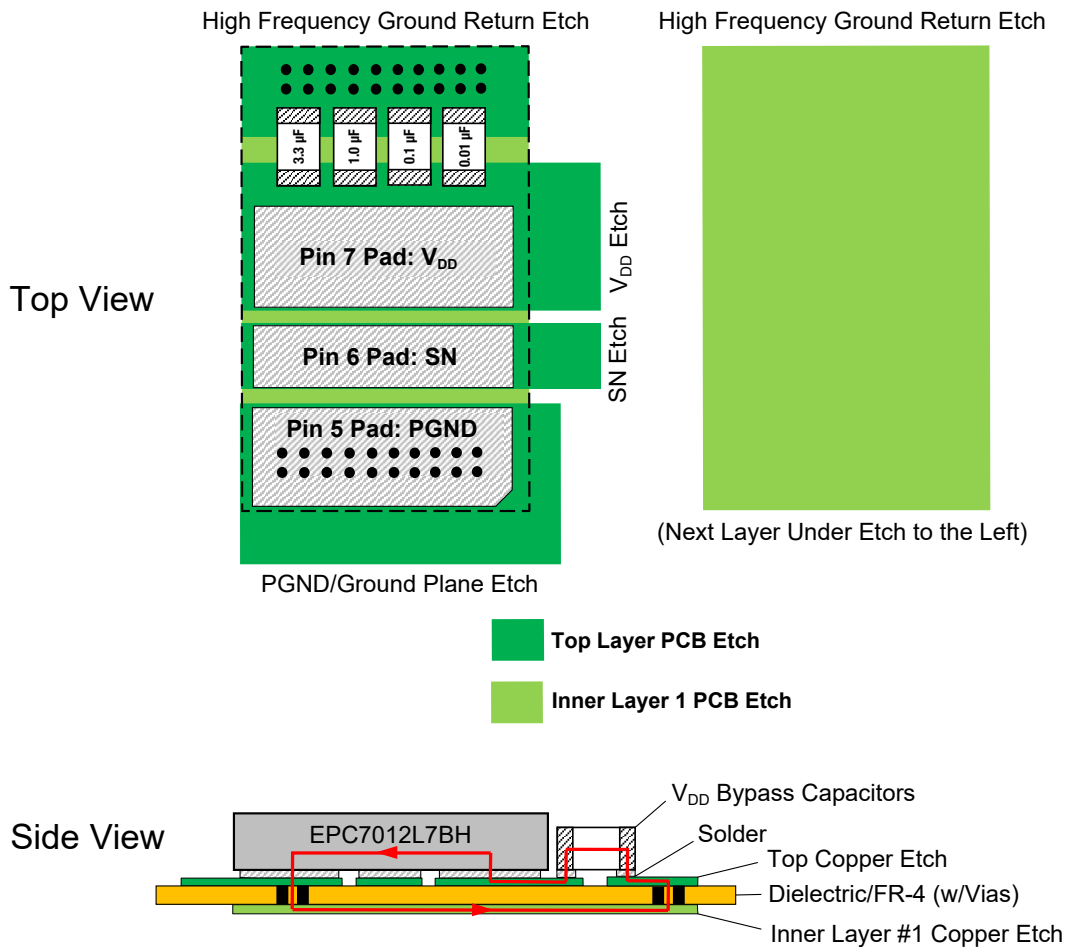

Figure 4. Recommended Optimum V_{DD} -to-PGND Power Supply Bypass Capacitor Layout (Not to Scale)
Because of the extremely high rate-of change of voltage seen at the SN output it is recommended that a minimum of one (1) 3.3 μF microfarad ceramic capacitors, one (1) 1.0 microfarad ceramic capacitor, one (1) 0.1 microfarad ceramic capacitor and one (1) 0.01 microfarad ceramic capacitor, all with sufficient voltage de-rating, be connected from V_{DD} to PGND. All four of these capacitors should be low ESR types, if possible. It is strongly recommended that these capacitors have the smallest possible case sizes possible such that they inscribe the smallest possible loop area between V_{DD} and PGND so as to minimize the inductance related to this loop area. Also, to reduce the inductive loop between V_{DD} and PGND is strongly recommended that an induction loop cancellation layout of the high frequency power supply capacitors be employed. Figure 4 illustrates the recommended optimum layout and placement for the V_{DD} -PGND high-frequency bypass capacitors.
It should be noted that in Figure 4 that the light green copper etch area on the PCB's inner layer #1 is positioned directly beneath the copper etch clad on the top layer, as indicated by the dashed line.
The requirements of each PCB implementation of the EPC7012L7BH may not allow the recommended optimum layout shown in Figure 4 to be implemented, but care should be taken to keep the recommended layout as physically and mechanically close to it as possible.